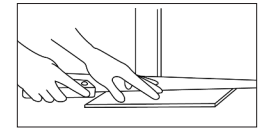

Figure 6
- Undercut door casings and jambs. Remove any existing base, shoe mold or doorway thresholds. These items can be replaced after installation. All door casings and jambs should be undercut to avoid difficult scrite cuts (Figure 6).